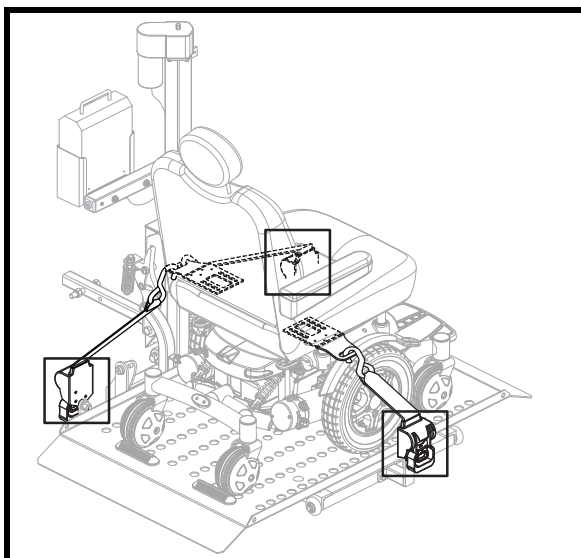

Figure 14. Retractable Tie-down Strap Securement
- Pull the strap out and secure it to the chair restraint tab. See **figure 14**.